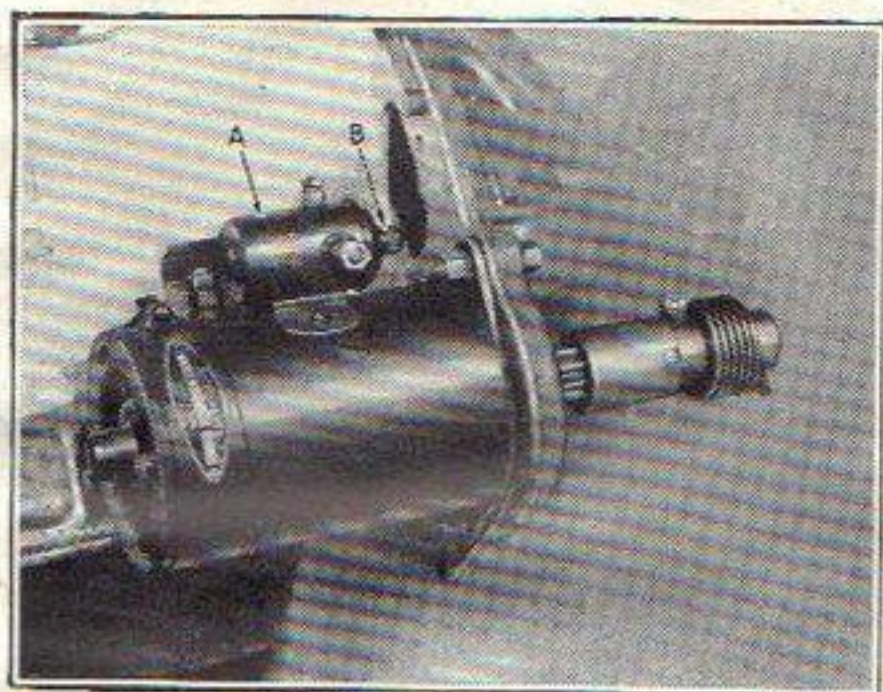

Figure 20
The starting motor, Figure 20, used on these models is operated by a solenoid switch (A) mounted on top of the starter. Control of the starting motor is by means of a push button type switch located on the instrument panel. The starting motor may also be operated by removing cap (B) at the rear of the solenoid switch and pushing the plunger.